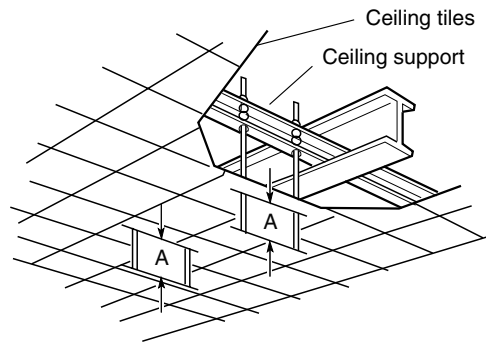

Fig. 3-122
- b) Use existing ceiling supports or construct a suitable support as shown in Fig. 3-122.